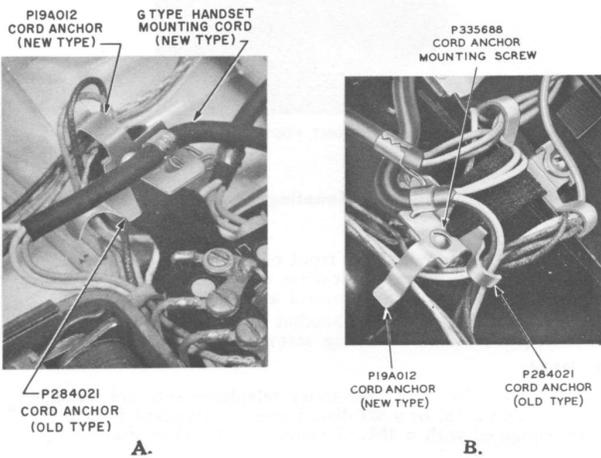

Fig. 5—Cord Anchors
5.01 The 5300- and 5400-series telephone sets are provided with a new cord anchor in addition to the present cord anchor used with the 300- and 400-series telephone sets. The addition of the new cord anchor enables handset cords equipped with either a stay hook or S hook to be terminated. Fig. 5 shows the normal method of arranging handset and mounting cord conductors in these sets. Fig. 5A shows the new G-type handset mounting cord and Fig. 5B shows the old G-type handset mounting cord. The cording within the sets should be dressed away from the ringer gongs and all moving parts.